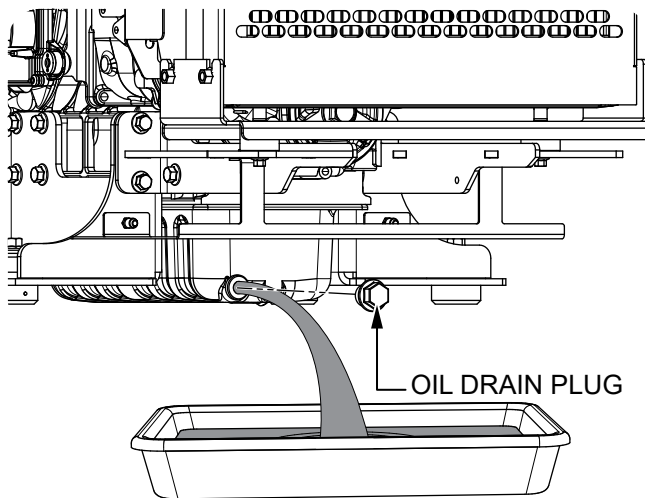

Figure 37. Draining The Engine Oil
5. Remove the **oil drain plug** and **gasket** (Figure 37), and allow the oil to drain into a suitable container.